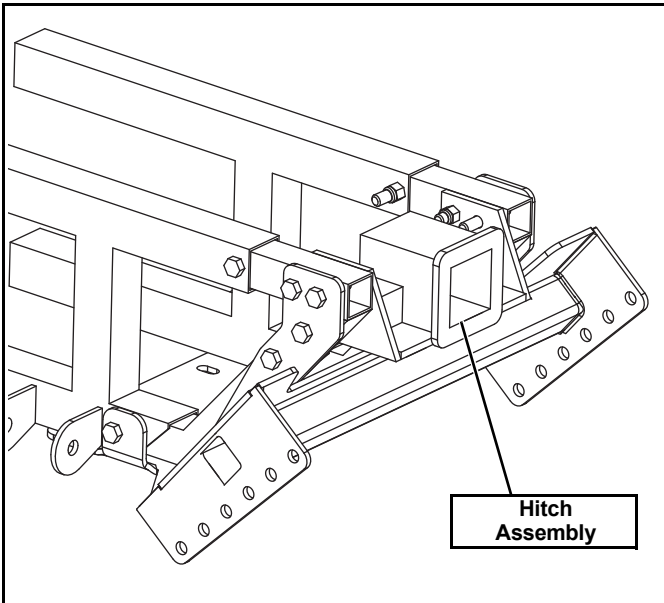

Figure 8
7. Hold Hitch Assembly in its original location. (See Figure 8.)
8. Secure the upper end of item #2 and the Hitch Assembly by reinstalling the hardware that was removed from step 1. (See Figure 8.)
9. Secure the bottom of item #2 by reinstalling the hardware that was removed from step 3, but place (1) 3/8\"/>